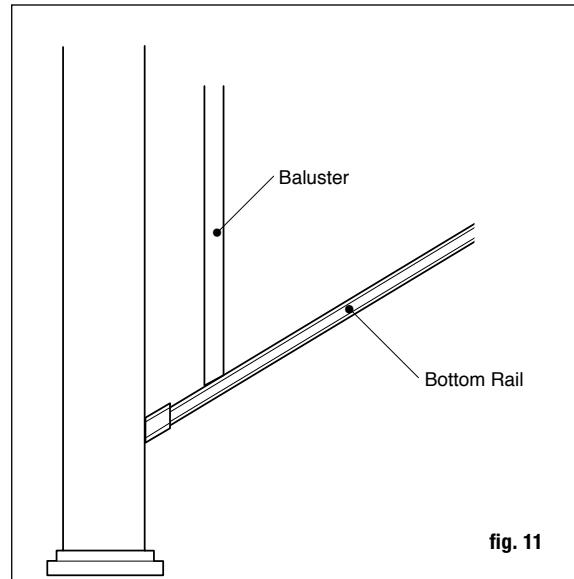

fig. 11
Step 8 Place a baluster into each routed hole in the bottom rail. Make sure baluster is fully seated in rail (fig 11).